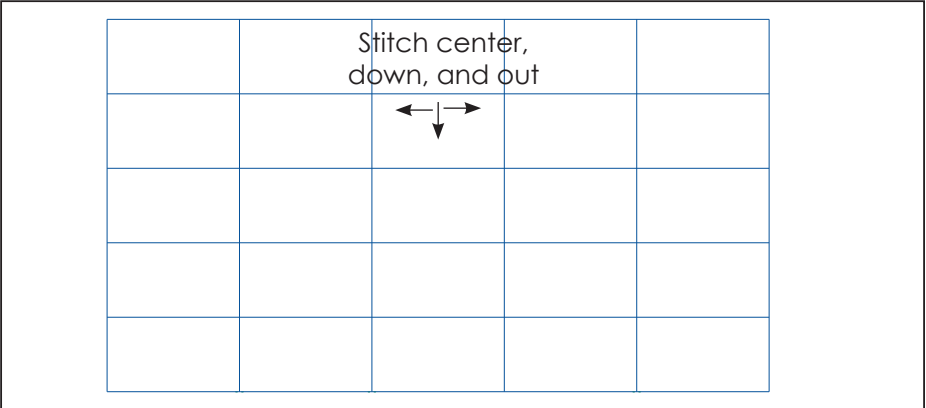

Figure 28: Stitch Panels Together
15. Continue to stitch panels together with stitch bolts center, down, and out. Tighten the M8 bolts to lock the panels in place. Refer to **Figure 28**.